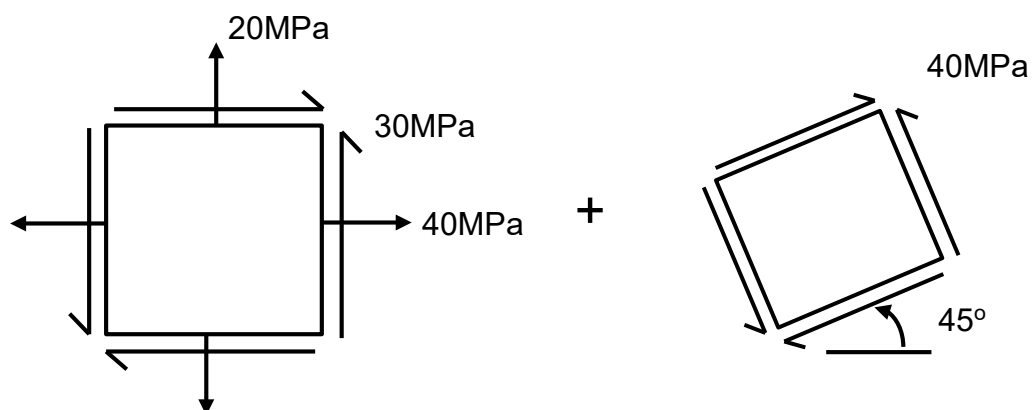

Figure 4
4. A point on a structure is represented by the stress element shown in Figure 4 and another stress condition is superposed. Draw the Mohr's circle for the combined stress condition and determine the maximum shear stress and the principal stresses.